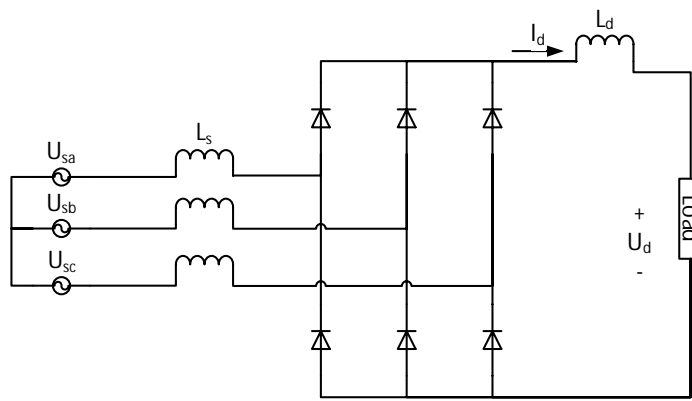

Figure 1
- a) A three phase diode rectifier according to Figure 1 has inductance, L_s , on the ac-side and L_d on the dc-side. Which inductance shall be large in order to obtain continuous current through the dc-load. (2)
- L_d shall be large to create continuous dc-side current with filtering of the ripple present in the voltage from the converter. (3)
- b) List the three most important parameters that defines the commutation of current between two diodes in a rectifier as of Figure 1. Give a short motivation why.
- c) In a DC/DC converter, inductance is commonly used for energy transfer between low and high-voltage sides. If the average voltage across the inductance is greater than zero during a time interval, what can you say (2)